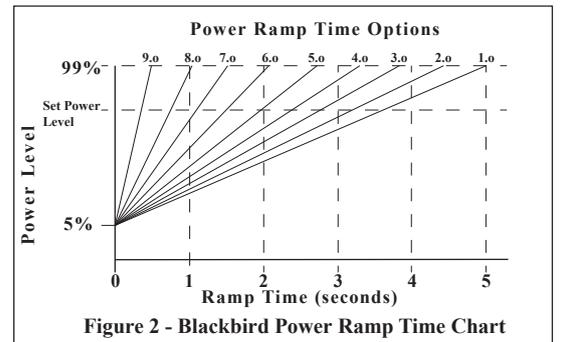

Figure 2 - Blackbird Power Ramp Time Chart
- Figure 2 illustrates the effect of varying Power Ramp Time vs. the Controller’s output.